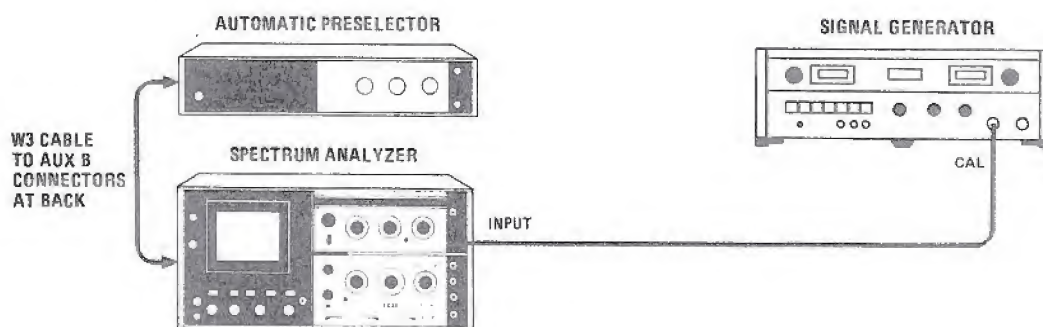

Figure 4-2. Insertion Loss Test Setup, Dc-1.8 GHz
1. Connect test setup as indicated in Figure 4-2 and set controls as follows: